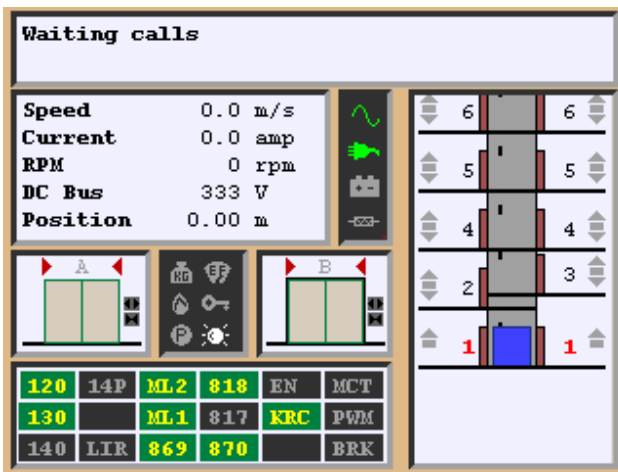

Figure-16 Floor resetting
- Elevator will move bottom floor after completed shaft learning to reset floor numbers. The car will appear on screen as shown figure-16 when car reaches at bottom floor. The car goes bottom floor to reset floor number every time when ARCODE energized first time.
- Second method is press “info” button when AREM shows main screen (figure-16).